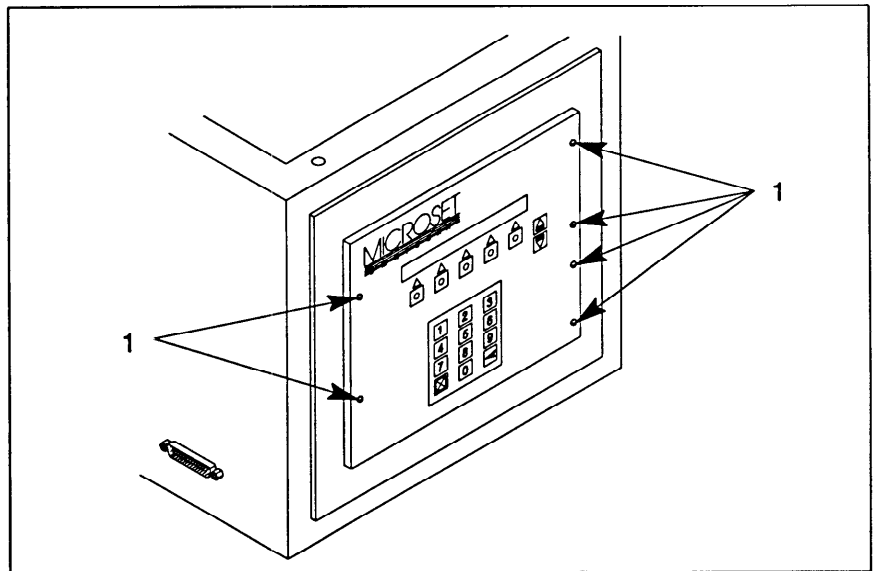

Figure 3. Removing the front panel screws
6. Referring to Figure 3, remove the six screws (1) from the front of the control panel.
4. Reinsert the controller assembly into the cabinet and secure, figures 3 and 4.